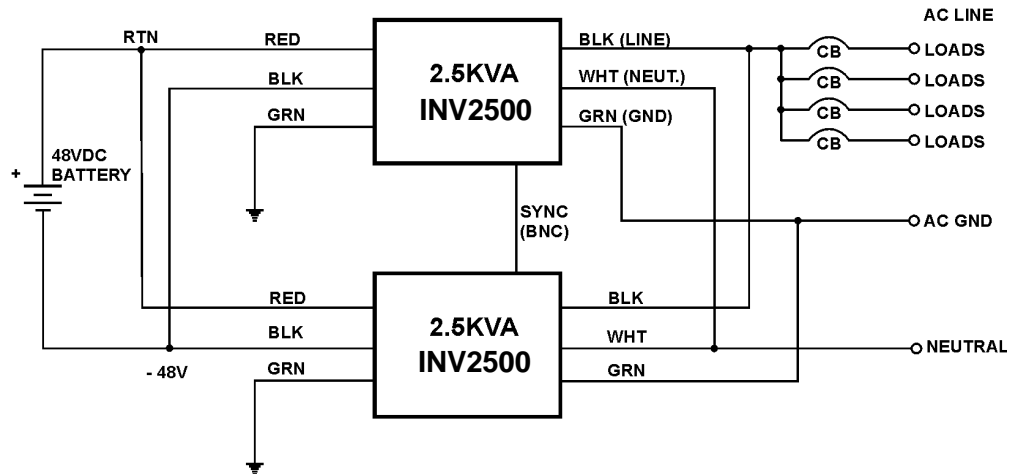

Figure 8. INV2500 Series Inverters Connected in Parallel
- 13.1** The INV2500 and INV5000 Series inverters are designed to operate in parallel for higher output current. This is done by connecting all inputs in parallel and all outputs in parallel, although the DC inputs could come from two separate sources. In addition, the sync terminals must be connected together by means of a cable with BNC connectors. The sync terminal is used only for parallel connection of two or more inverters. See Figure 8. For more than two inverters, BNC tee adaptors are required. Current sharing between paralleled inverters is  $\pm 10\%$ .
- 15.1** In the actual application of the INV2500 or INV5000 inverter, follow the procedure in sections 14.2 through 14.6, except the inverter should be connected to its actual load. The loads connected to the output of the inverter should always have their own individual circuit breakers as shown in Figure 8. Make connections to the Form C relay contacts as required. Then, for the INV5000, re-install the rear safety cover.